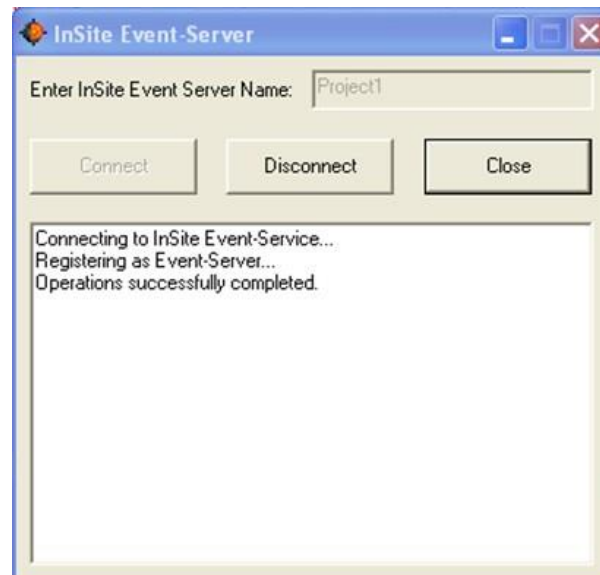

Figure 12-30: The InSite Event-Server Dialog box accessed from within the InSite Seismic Processor.
2. The InSite Event-Server Dialog box (Figure 12-30), accessed within InSite, registers the Event-Server on the Event-Service and sends a list of all the events within its project. The Event-Server then periodically updates this event information. The Event-Server is designed to remain continuously active, operating in the 'back-ground'. The Dialog box is modeless meaning that the user can still interact with all the normal functions used in InSite.